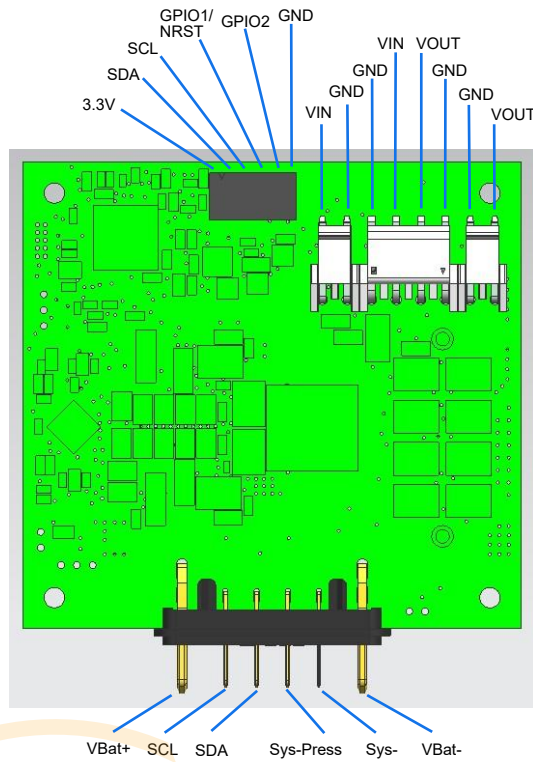

Figure 1 - Connector locations of the DC Input & Output, Smart Battery, and User Interface (UI) connectors.
Figure 1 shows connector locations of the DC Input & Output, Smart Battery, and User Interface (UI) connectors.